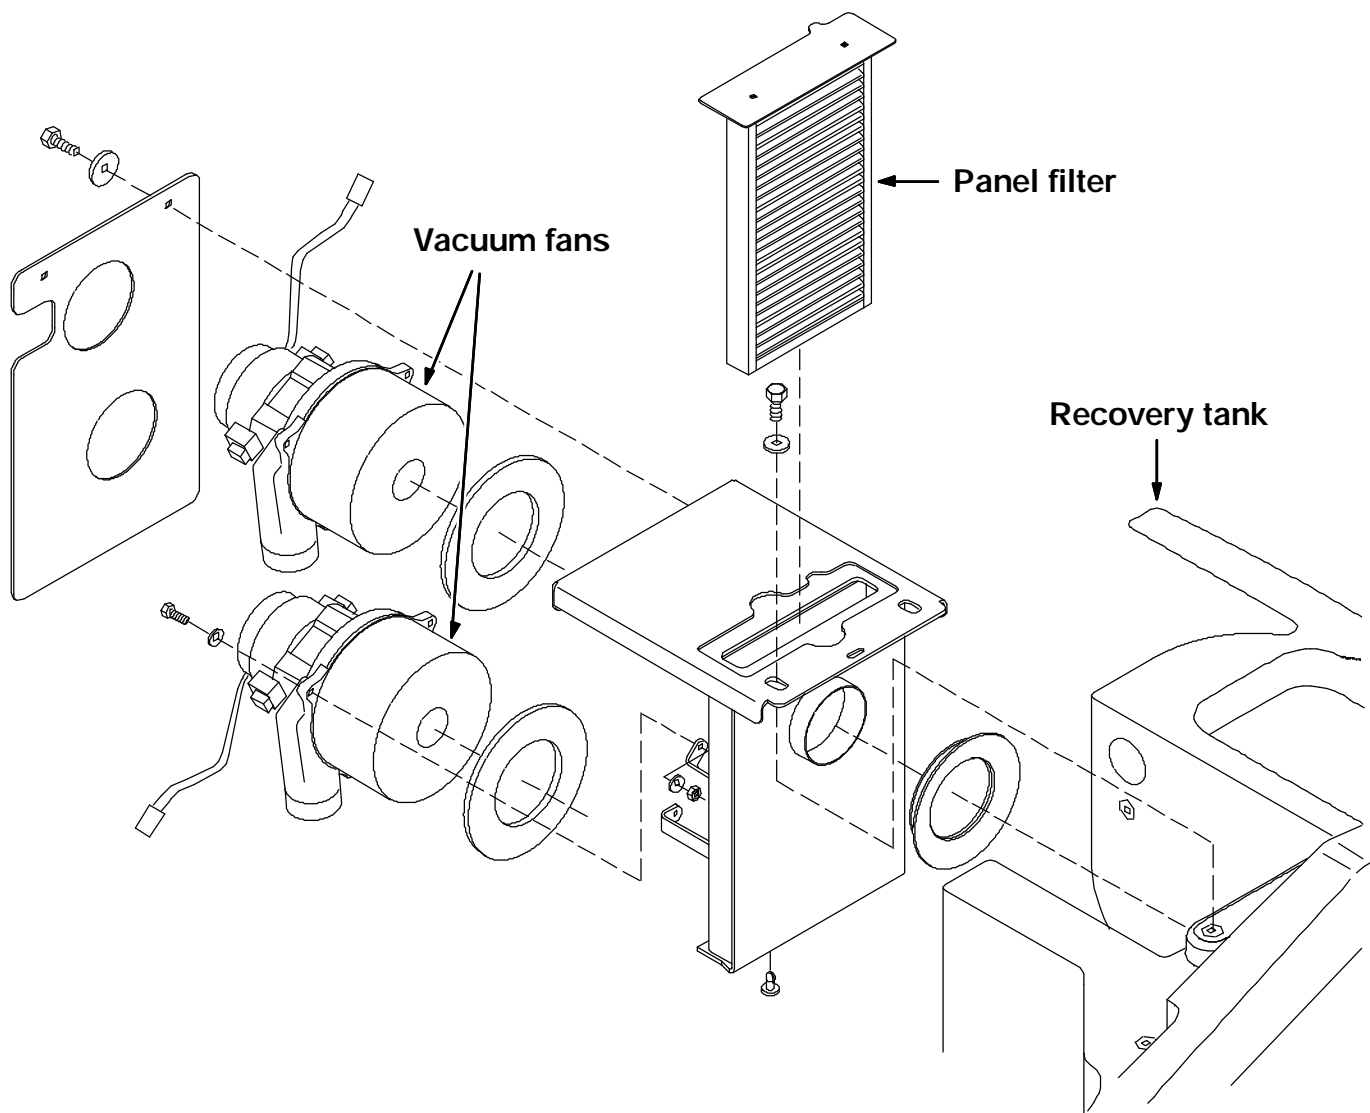

FIG. 2 - Vacuum Fan Assembly
3. Remove the two screws holding the vacuum fan mount bracket to the top of the recovery tank. (Refer to FIG. 2)
4. Pull the vacuum fan mount bracket assembly up far enough to disconnect the fan from the main electrical harness. Remove the vacuum fan assembly from the machine. (Refer to FIG. 2)
5. Remove the panel filter assembly from the top of the vacuum fan housing. (Refer to FIG. 2)
9. Reinstall the panel filter assembly in the top of the vacuum fan housing. (Refer to FIG. 2)
10. Position the vacuum fan assembly onto the top of the recovery tank. (Refer to FIG. 2)
11. Reconnect the vacuum fan(s) to the main harness. (Refer to FIG. 2)